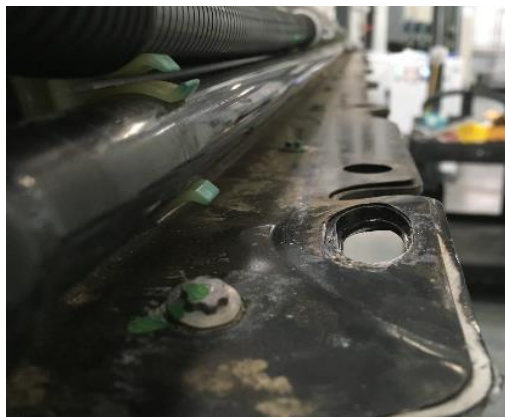

Figure 14 – Deburr the area to remove sharp edges
- Deburr the area with a hand deburring tool to remove the sharp edges if sharp edges are found (Figure 14).